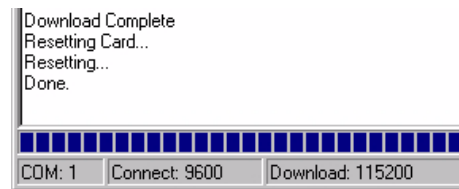

Figure 20: Update Process Complete
8. The receiver should finish downloading and reset. The process is complete when “Done.” is displayed in the main display area, see *Figure 20* on *Page 103*.